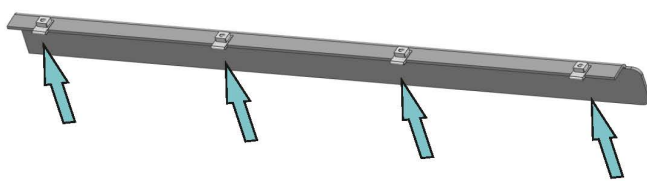

Fig. 27
26. Install U-nuts M6 (item J) into inside part of backings of bumper body (item 5,6). (Fig.27).